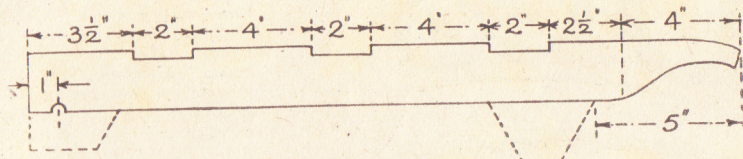
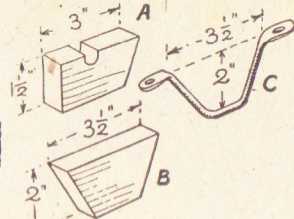

Fig. 1—Side view of handle with dimensions and shaping
Fig. 3—Bearers on foot shapes
In commencing to make the truck the two main handles will first be prepared. They are each 2ft. long and cut from 2in. wide stuff  $\frac{1}{2}$ in. or  $\frac{3}{4}$ in. thick. Square off the ends of the two pieces, and then, taking up one of them, proceed to mark off the positions of the recesses, as shown in Fig. 1. Cut down on the lines with a tenon saw to  $\frac{1}{4}$ in. deep and clean out the wood with a chisel. Or, perhaps, the fretsaw frame fitted with a coarse saw would do the latter job more cleanly.
The bearer brackets which hold the axle are two shaped pieces 3ins. long by 1  $\frac{1}{2}$ ins. wide and  $\frac{1}{2}$ in. thick, and one end of each is cut to a slope, as shown at (A) Fig. 3. The pieces are glued to the ends of the handles and a long screw put into the shaped ends of each to give added strength.
the ground. At (B) in Fig. 3 the size and shape of one foot is given, and, having cut one to shape, the second one can be accurately outlined by drawing round it. The proper position of the foot is given in the dotted lines in Fig. 1. Glue the feet on and drive in nails or screws
As an alternative to the feet described above, they may be made from stout wire, two pieces about 9 ins. or 10 ins. long being cut off and bent up to the shape given at (C) in Fig. 3. The ends of the wires are flattened by